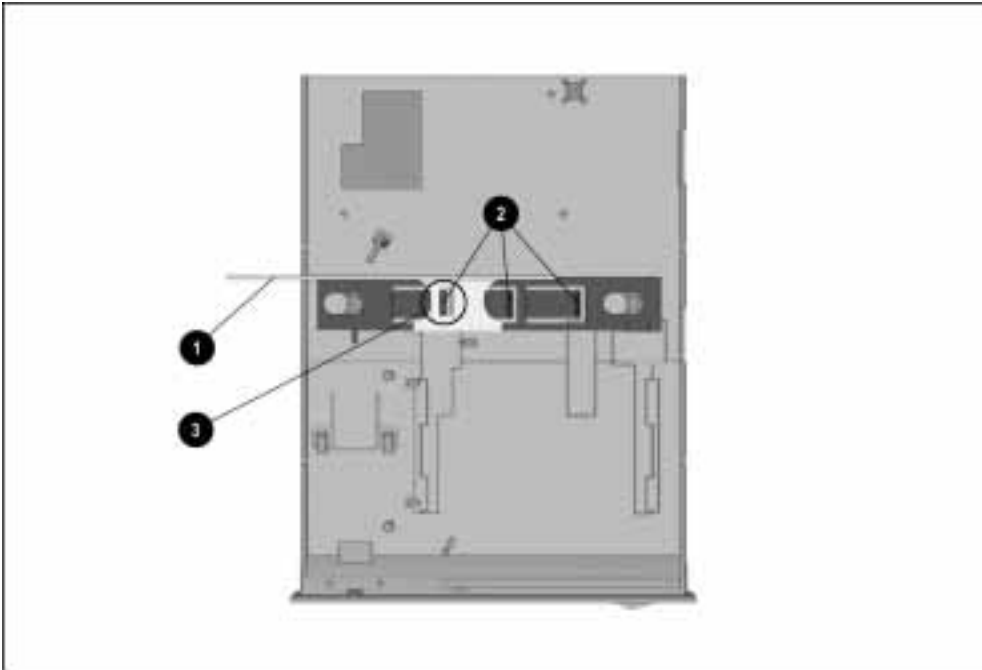

Figure 5-25. Alignment of the Security Extension Bar
7. Turn the drive cage/half-height MultiBay adapter assembly upside down. Position the security extension bar ❶ as far to the left as it will go. This is done by pressing the tabs ❷ on the lock slide and moving the security extension bar to the left until it locks on the first tab ❸ (Figure 5-25).